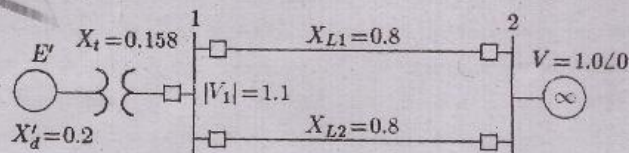

Fig. 8
- (b) (i) Define steady state stability and stability limit with the help of Power- Power angle curve. What are the techniques available to improve steady state stability? (6)
- (ii) A 60-Hz synchronous generator has a transient reactance of 0.2 per unit and an inertia constant of 5.66 MJ/MVA. The generator is connected to an infinite bus through a transformer and a double circuit transmission line, as shown in Figure 8. Resistances are neglected and reactances are expressed on a common MVA base and are marked on the diagram. The generator is delivering a real power of 0.77 per unit to bus bar 1. Voltage magnitude at bus 1 is 1.1 p.u. The infinite bus voltage $V = 1.06 \angle 0$ per unit. Determine the generator excitation voltage and obtain the swing equation.